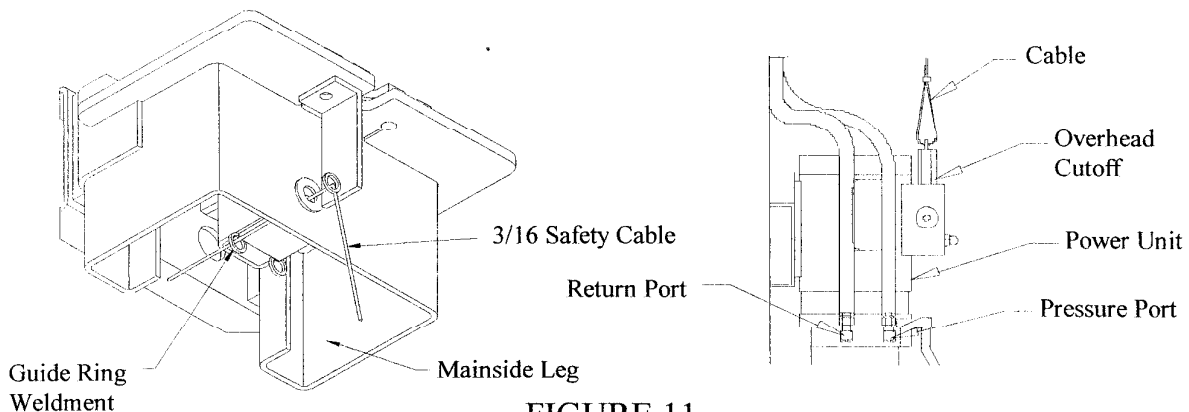

FIGURE 11
23. Strip approximately 8" from the end of the plastic coated 1/16" cable. Loop this end through the ring on the cylinder mount weldment on the offside leg and secure with a squeeze clamp. Thread the cable through the lift to the power unit as shown in Figure 11. On top of the conduit box of the power unit is the pull rod for the cable. Cut the cable 6" longer than the pull
24. The Fenner power unit has two ports on its left side. On this side, the port on the left is the **return port**. The port on the right is the **pressure port**. See Figure 11 on previous page. Attach a 3/8" O-Ring to 3/8" Male JIC adapter to both ports. To both of the 3/8" O-Ring fittings, attach a 3/8" JIC Swivel Nut 90. Route the hoses as shown in Figure 11.